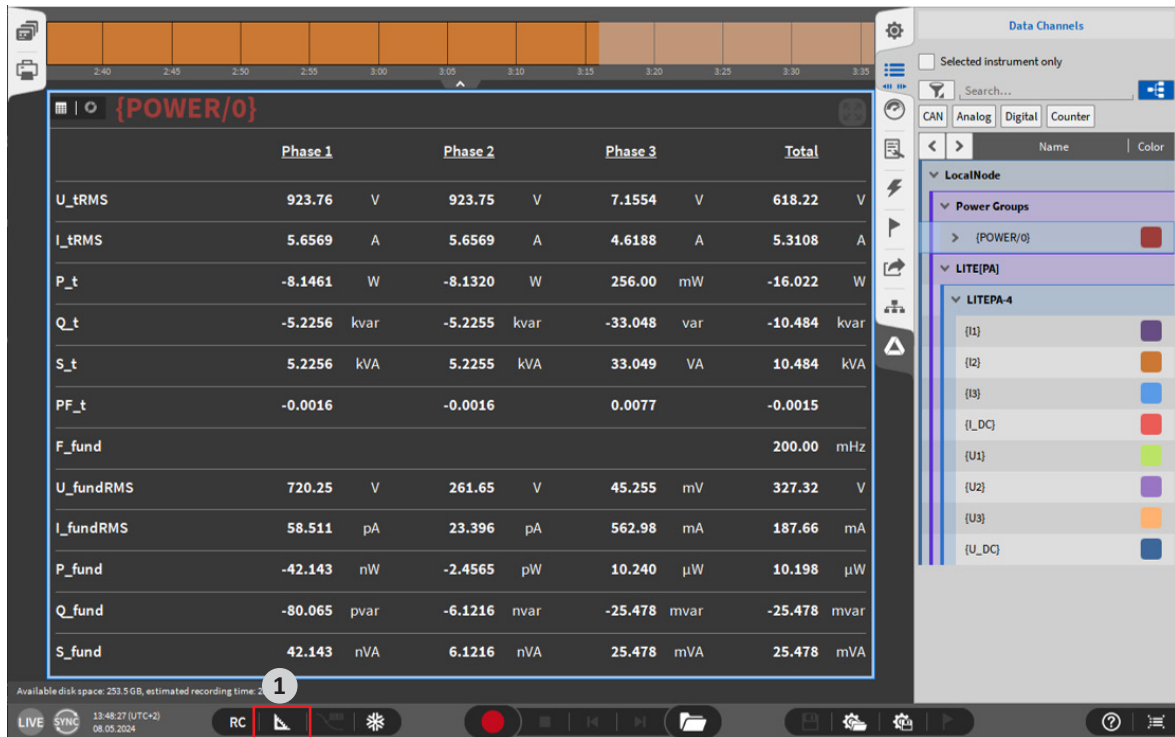

Fig. 23: Place the Power instrument without a template (2)
2. Resize the instrument and disable the design mode at the bottom left, see ① in Fig. 23.